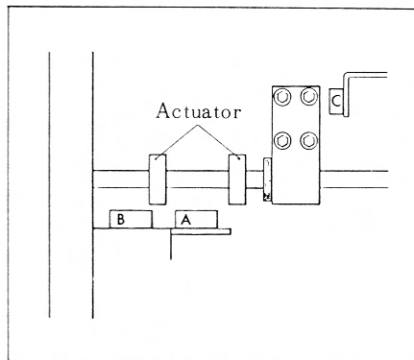
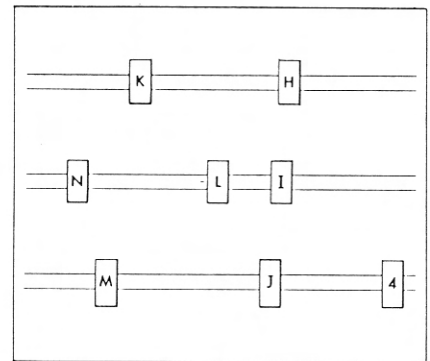
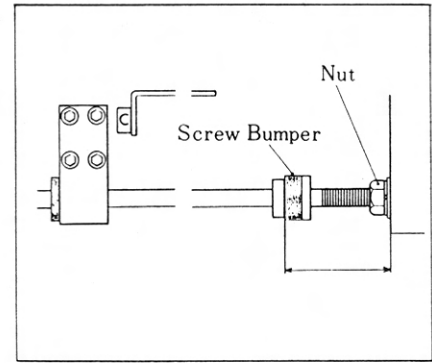

Figure 5
Figure 6
Figure 7
4. Length of End Dense (Figures 5 and 6)
- (a) The length of starting the end dense may be altered by moving the actuator for switch (B). To decrease the length, move switch (B) to the left.
- (b) The length of the second end dense may be altered by moving switch (I). To decrease the length, move switch (I) to the left.
5. Cushion (Figures 6)
6. Thread Pick Up and Trim (Figure 6)
7. Cutting Position of Center Knife (Figures 5 and 6)
8. Position of Tab Knife (Figures 7, 8, 9 and 10)
- (A) Screw bumper out to correct.
- (B) Screw bumper in to correct.
- (C) (a) Adjust finish end of pocket by moving switch (M) (see Figure 6) to the right.
- (D) (a) Adjust finish end of pocket by moving switch (M) to the left.
- (E) Start end knives are at an incorrect angle to the center cut. Loosen the tab knife shaft holder and rotate to correct this condition.
- (F) Start and finish end tab knives are misaligned. Loosen screws (H) and (F), move adjusting screws (I) and (G).